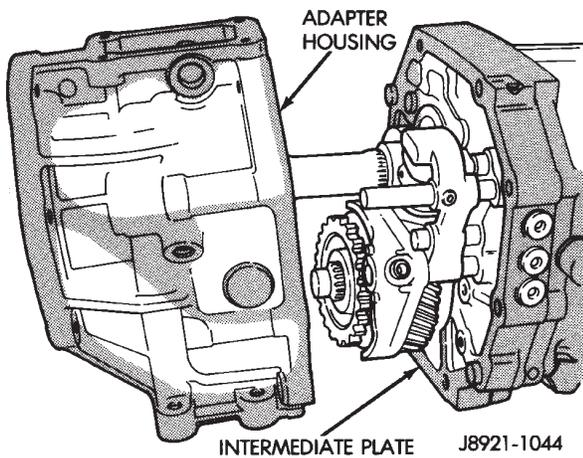

Fig. 27 Remove Adapter/Extension Housing—Typical
- (17) Remove adapter/extension housing (Fig. 27).